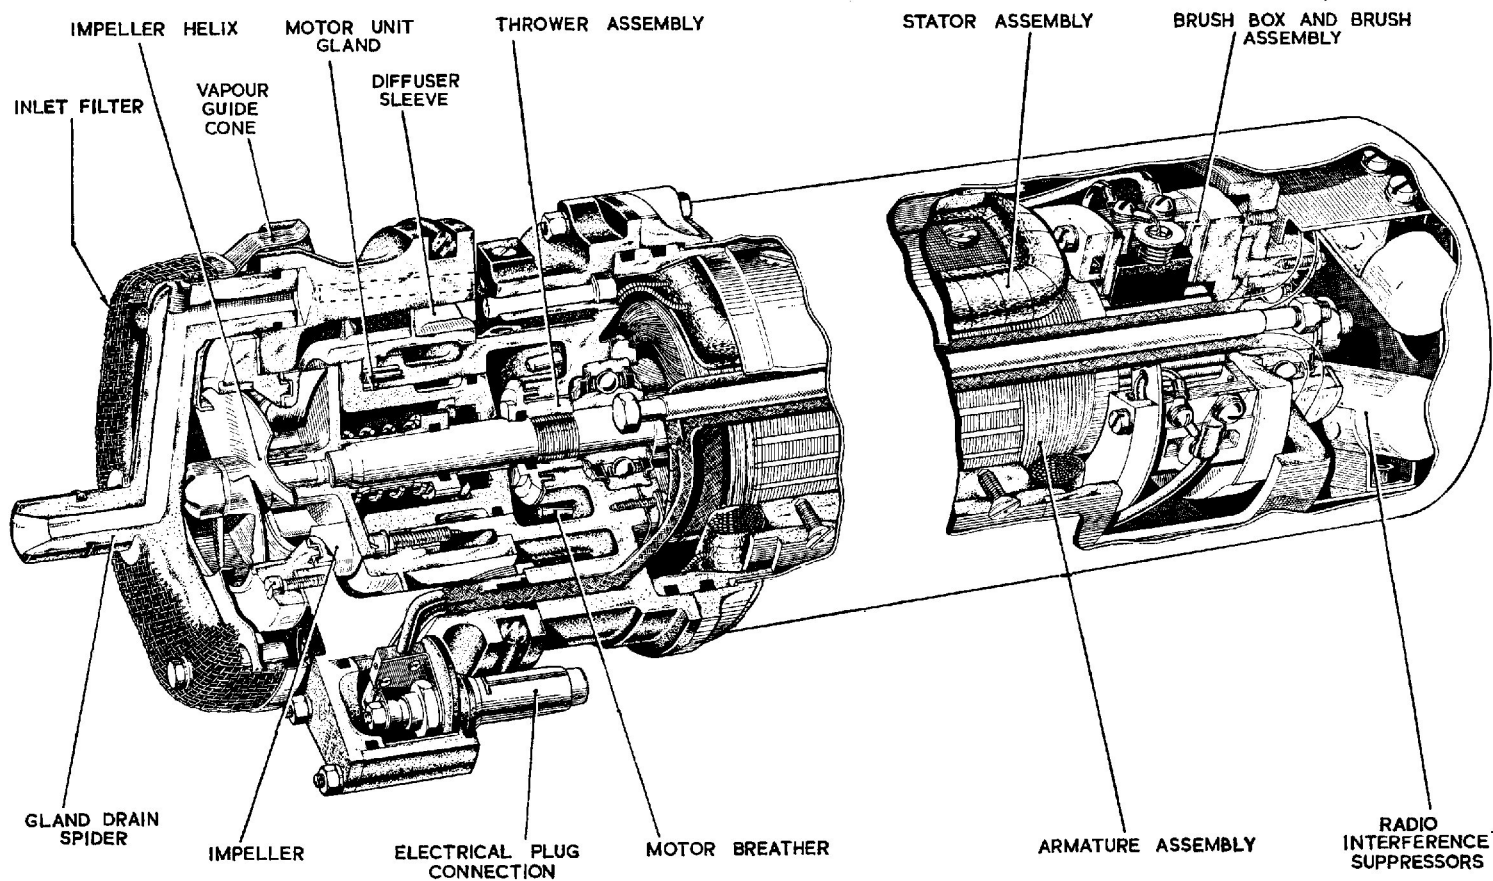

Fig. 2. Sectional view of SPE. 1322 Mk. 3A pump
3. Basically the pump, a sectional view of which is shown in fig. 2, consists of a sealed motor unit with an extended armature shaft driving the pump impeller system which is housed in a light alloy casting.